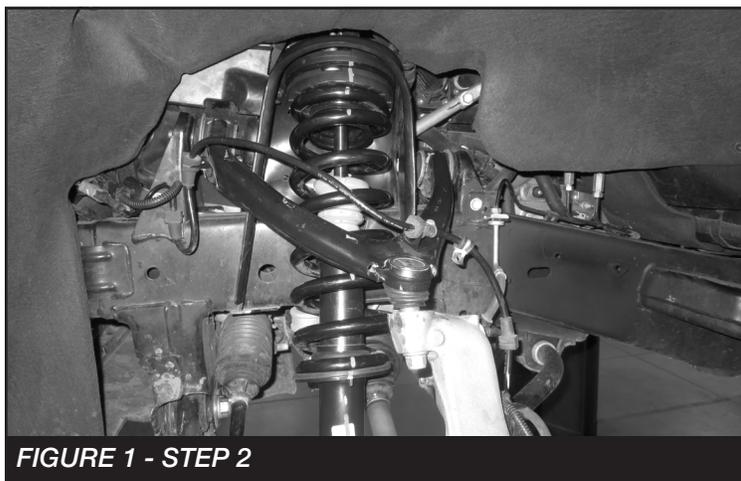

FIGURE 1 - STEP 2
2. Starting on the drivers side. Disconnect the sway bar from the lower control arm and the Tie rod end from the factory knuckle. Disconnect the ABS/Bracke line from the factory upper control arm. Loosen but do not remove the upper ball joint nut. Disconnect the upper ball joint from the knuckle by striking the knuckle with a large hammer next to the upper ball joint on the knuckle to dislodge the ball joints. Use care not to hit the ball joints when removing. **SEE FIGURE 1**
2. Using a paint pen. Mark the top strut cap and lower strut body to retain the correct orientation. **SEE FIGURE 1**